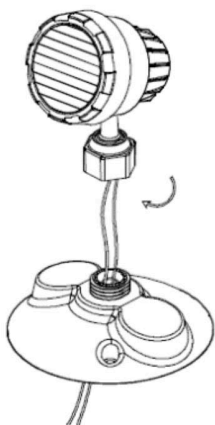

Fig.1
1. Feed the wires through the hole on the bottom and twist the nut to fix it (see Fig.1 below)